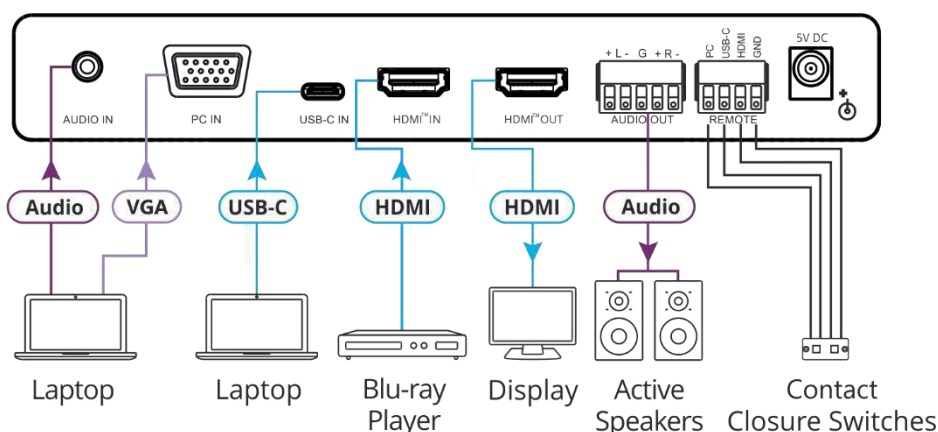

Figure 5: Connecting to the VP-426C Rear Panel
To connect the **VP-426C** as illustrated in the example in Figure 5:
- The unbalanced stereo audio PC source to the AUDIO IN 3.5mm mini jack (11).
- The VGA signal to the PC 15-pin HD connector (12).
2. Connect a USB-C source (for example, a laptop) to the USB-C port (13).
3. Connect an HDMI source (for example, a Blu-ray player) to the HDMI IN connector (14).
4. Connect the HDMI OUT connector (15) to an acceptor (for example, a display).
5. Connect the AUDIO OUT 5-pin terminal block connector (16) to a balanced stereo audio acceptor (for example, Kramer **TAVOR 6-O** active speakers).
6. Connect the REMOTE 4-pin terminal block connector (17) to contact closure switches (for example, Kramer **RC-22TB**).
7. Connect the power adapter to the **VP-426C** power connector (18) and to the mains electricity (not shown in Figure 5).
To connect the **VP-424C** as illustrated in the example in Figure 5:
1. Connect a USB-C source (for example, a laptop) to the USB-C port (13).
2. Connect an HDMI source (for example, a Blu-ray player) to the HDMI IN connector (14).
3. Connect the HDMI OUT connector (15) to an acceptor (for example, a display).
4. Connect the REMOTE 4-pin terminal block connector (17) to contact closure switches (for example, Kramer **RC-22TB**).
5. Connect the power adapter to the **VP-424C** power connector (18) and to the mains electricity (not shown in Figure 5).